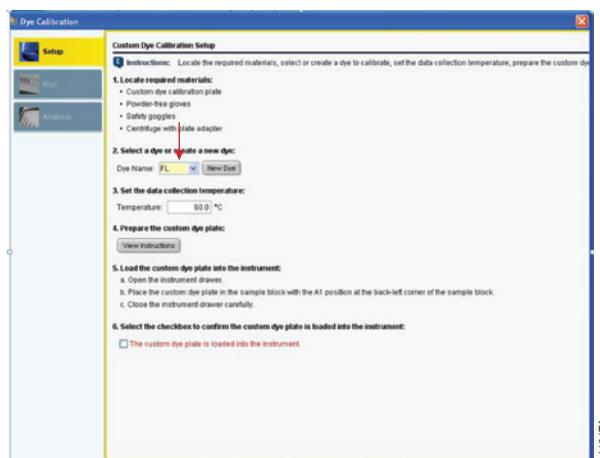

Figure 8. Select the dye name from the drop-down list.
- In the Custom Dye Calibration Setup window select “FL” from the Dye Name drop-down list in Step 2 (Figure 8).